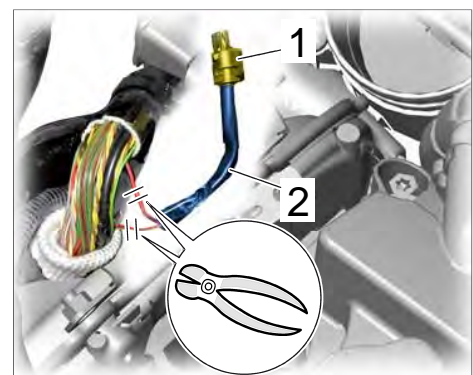

Figure 3
3.4 Cut the wires for the hydraulic valve connector ⇒ *Figure 3 -item 1-* at an **offset** position in the marked area. Leave an offset of 20 mm so that the connection points will not be lying on top of each other. Then detach and remove the sleeve on the wire ⇒ *Figure 3 -item 2-*. The sleeve will be re-used during installation.